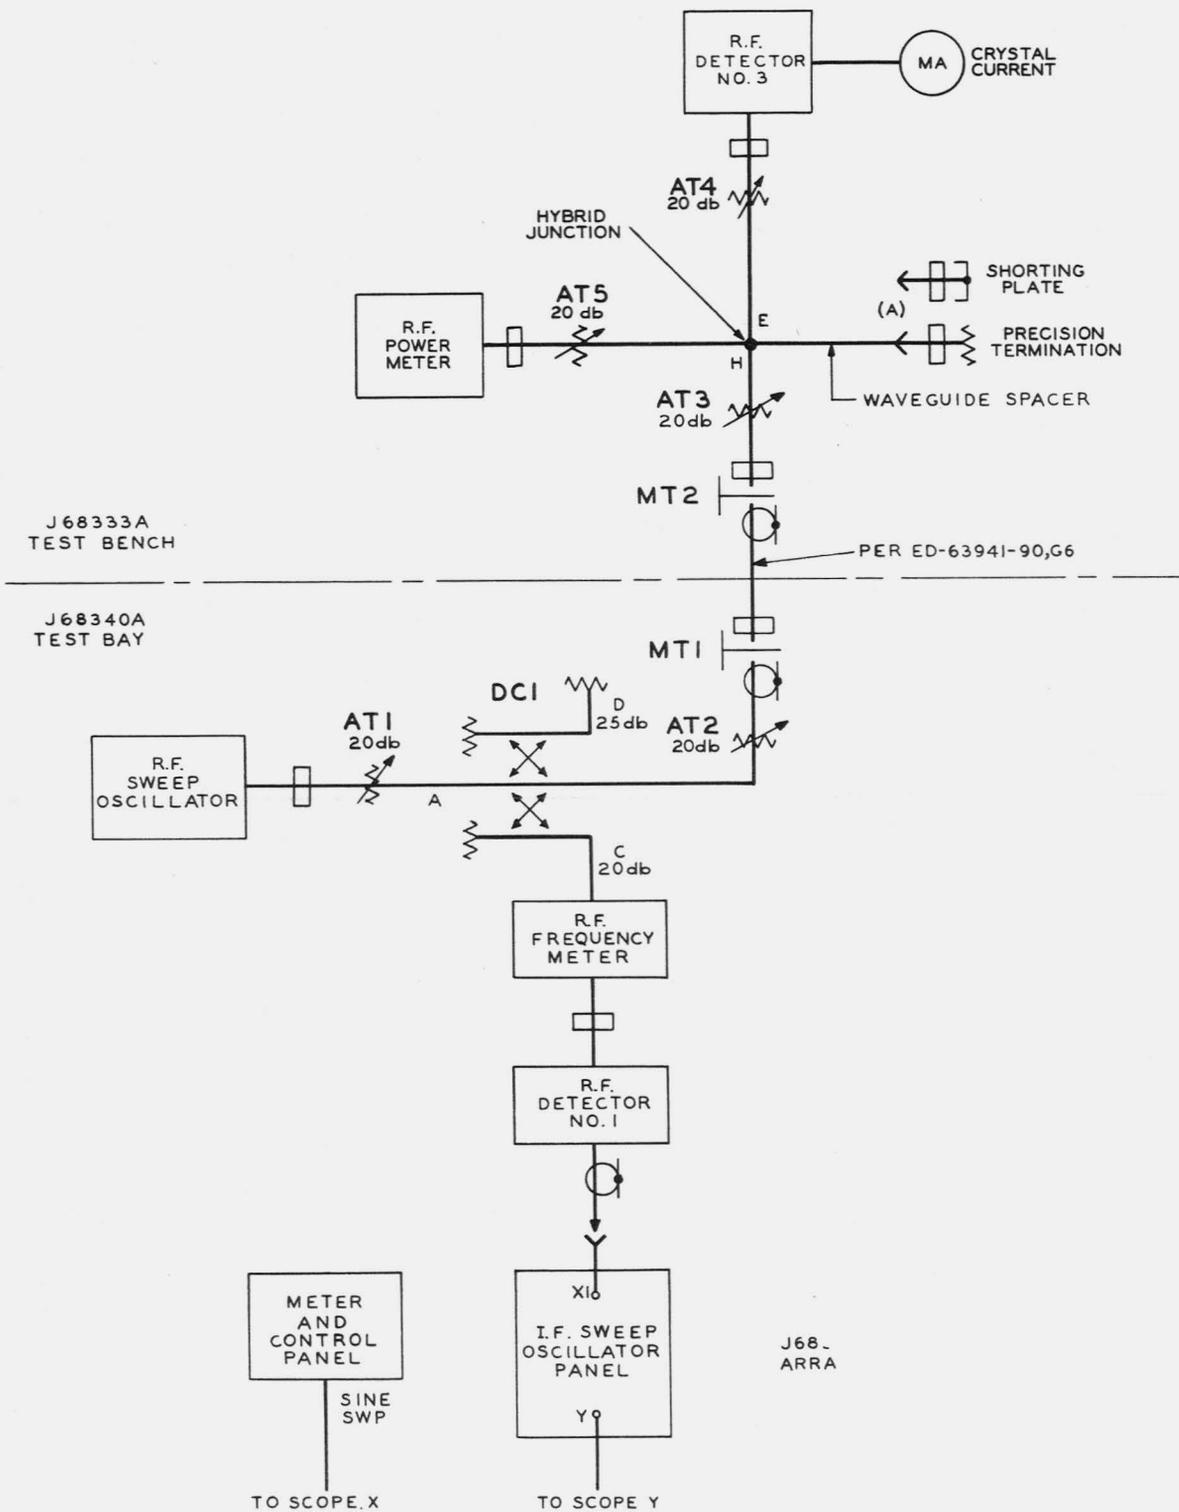

Fig. 14 - Arrangement of Beating Oscillator Input Test Equipment for Calibration
(1) To obtain a reference for beating oscillator input and return loss measurements, connect the beating oscillator input test equipment as shown in Fig. 14.
(d) Set AT3 at 5 db and with AT4 set at 20 db, remove the termination, at "A" Fig. 14, and connect the shorting plate.